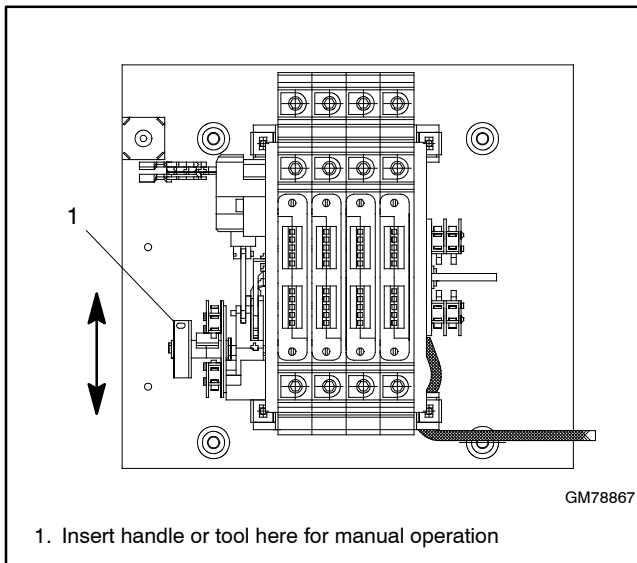
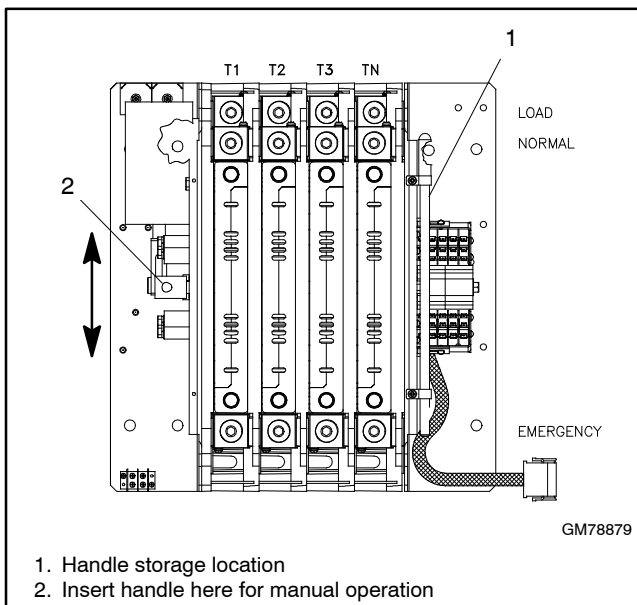

Figure 2-12 Manual Operation, 100-200 Amp 3-Phase Switches
Figure 2-13 Manual Operation, 400 Amp 3-Phase Switches
- If the transfer switch is equipped with a maintenance handle, remove the handle from its storage location inside the enclosure. See Figure 2-13.
2. Insert the maintenance handle or a tool (such as a screwdriver) into the hole in the shaft on the left side of the operator as shown in Figure 2-12 or Figure 2-13.